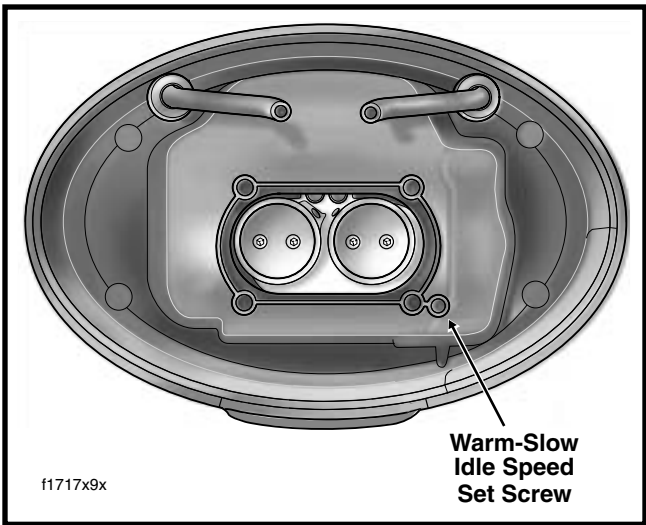

Figure 2. Air Cleaner Backplate
- 3. To adjust the warm-slow idle speed, locate the set screw through the hole in the air cleaner backplate (lower right corner of the intake air inlet). See Figure 2.